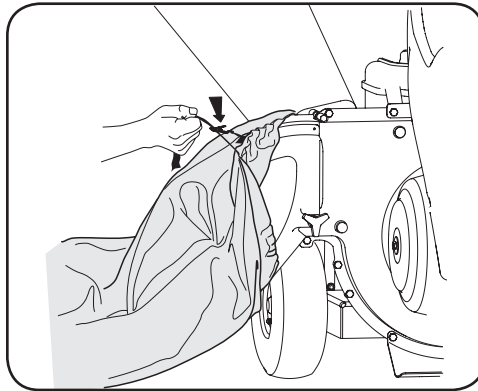

Figure 4-2
2. Squeeze the locking buckle to release the bag's drawstrap before loosening it from the chute deflector. See Figure 4-2.